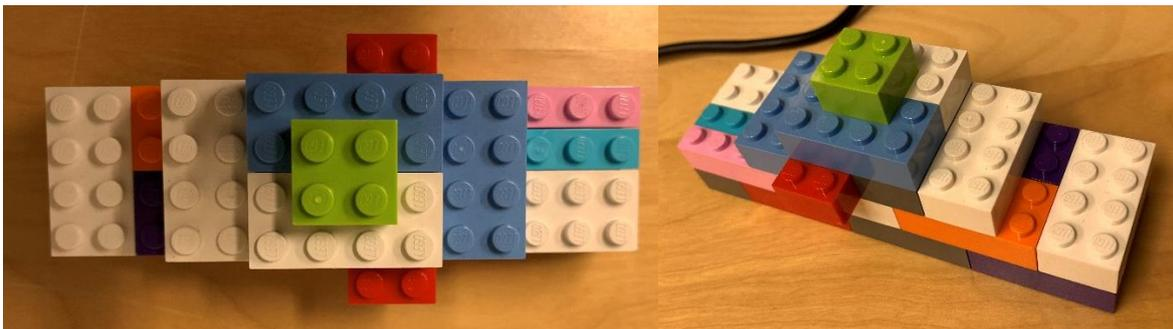

Figure 1: Lego shape used for creating a specific shape with building blocks with a set standardized size.
- o Lego shape (see Figure 1 below).